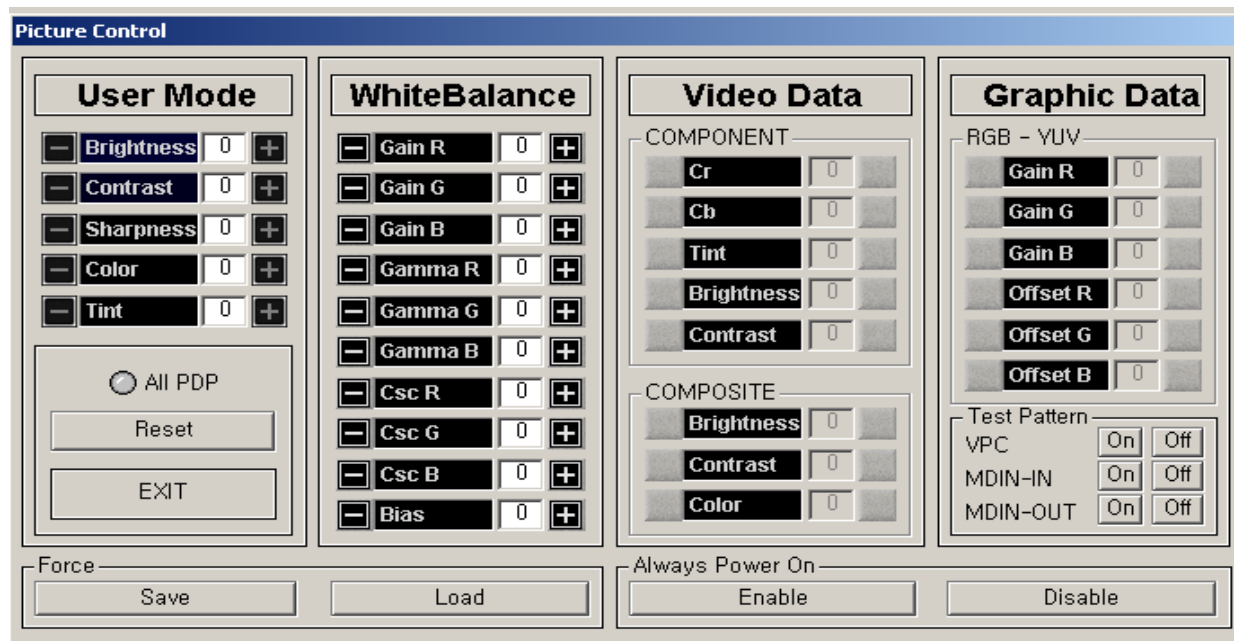

Fig 2] White Balance Adjustment Screen
Then will be displayed the below picture (Fig. 2).
- ④ Adjust gain values (R.G.B.) in white balance of Fig 2] to adjust color coordinates and luminance.
D] When adjustment is completed, click 'exit' button in Fig. 2].
- ③ In MSCS, Click "Picture Control" of "Control" menu bar in order to run "Picture Control" window
- ④ Input the password [ password : jglee ]. Then will be displayed the below picture (Fig. 2). if the values of active window are '0', click the PDP SET Image to load the saved values.
- ⑤ Administer setting so the values are as indicated in Appendix 1]. Then, administer adjustment.
- ⑩ When adjustment is completed, click 'exit' button in Fig. 2].